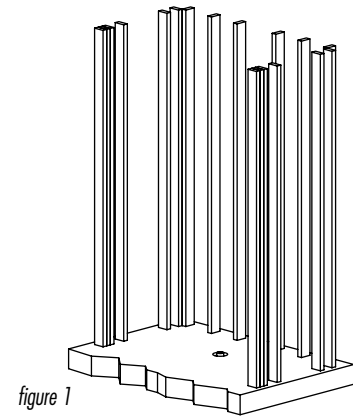

figure 1
1. Tear out and remove all old material to expose the studs (*fig. 1*).